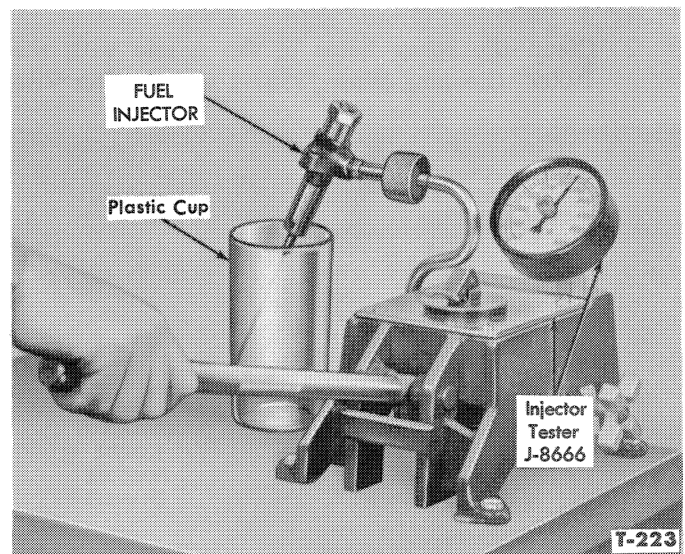

Figure 10—Checking Nozzle Leak Back
4. Bring the injector pressure to above 2200 psi and measure the time it takes for the pressure to fall from 2200 psi to 1500 psi. The time should be between six and forty-five seconds. If the pressure drops through this range in less than six seconds, it indicates that there is dirt between the nozzle and injector body faces, Figure 10.